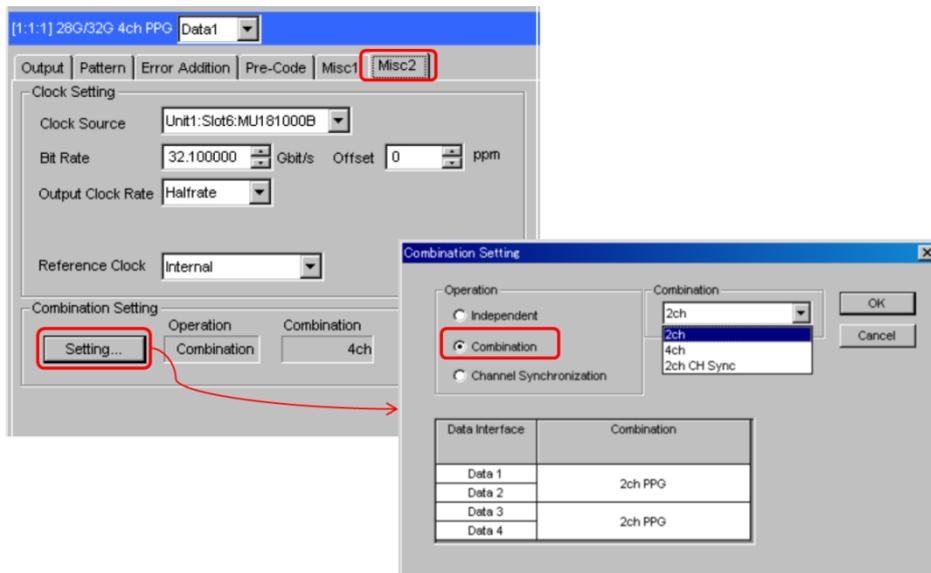

Fig. 4.1.1.1 2CH Combination Setting
- 1) As shown in Fig. 4.1.1.1, press the [Setting...] button at the [Misc2] tab of the PPG setting screen and select [Combination] at the [Operation] field in the Combination Setting screen.